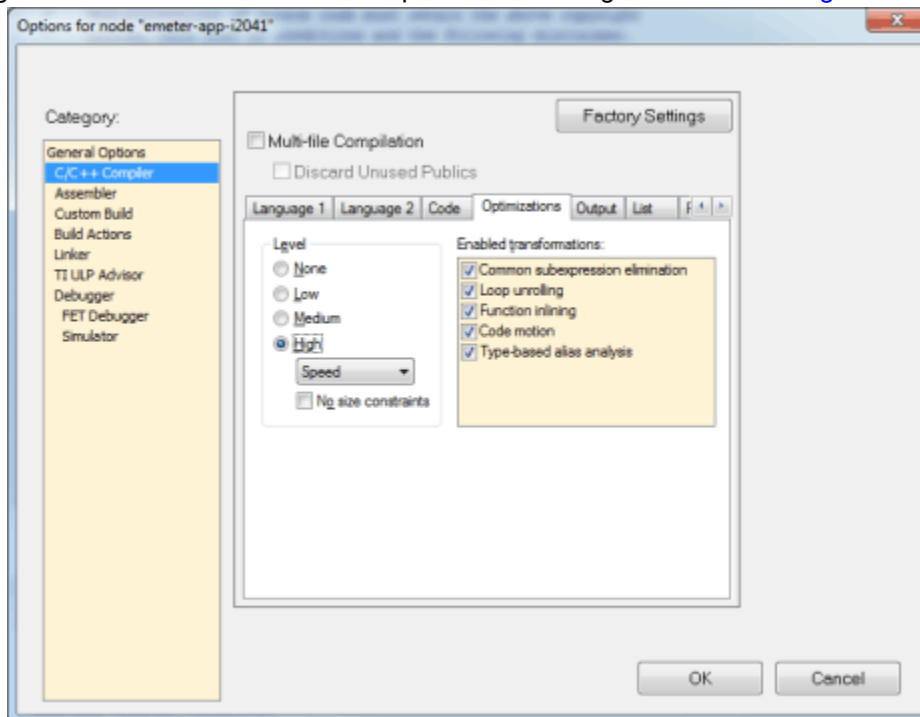

Figure 9-3. Optimization Options
- When the options appears, select C/C++ compiler on the left hand column and then select the Optimizations tab on the right hand side and check that the optimization setting is as shown in Figure 9-3.